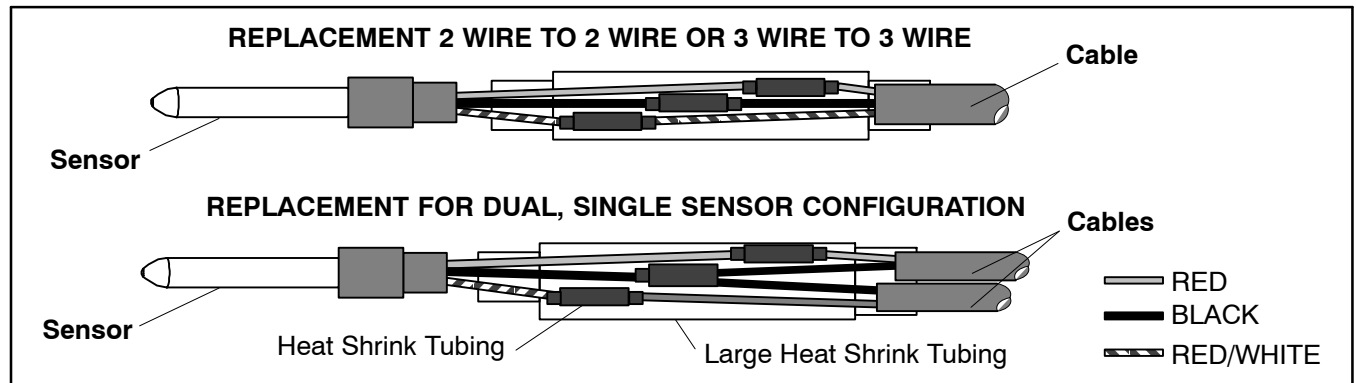

Figure 6-26 Sensor and Cable Splice
- d. Prepare the cables by cutting wires to the opposite of the sensor (See Figure 6-26).
- f. Slide a large piece of heat shrink tubing over the cable, and place small pieces of heat shrink tubing, one over each wire, before adding crimp fittings as shown in Figure 6-26.
- j. Slide heat shrink tubing over splice so that ends of tubing cover both ends of crimp as shown in Figure 6-26.